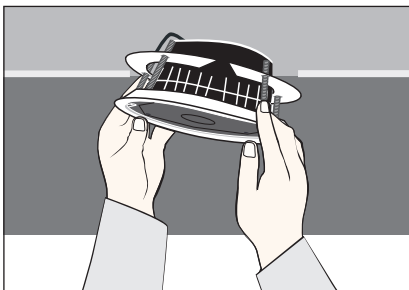

Fig. 7a
*For Speakers With Four Mounting Screws:* Holding the speaker's front lip with your thumbs and index fingers, push the mounting screws toward each other with your other fingers, so the mounting brackets can fit through the hole with an "up-and-in" motion. Release the screws and gently push the speaker to the ceiling/wall. (Fig. 7a)